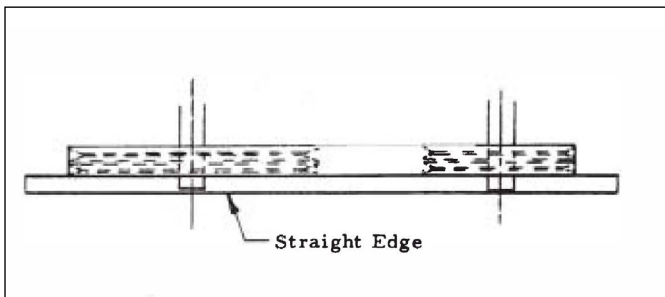

Figure 4-2: Pulley Alignment
- See Figures 4-2 and 4-3 for proper belt tension and pulley alignment.
It is important to maintain pulley alignment for normal belt life. See Figure 4-2.